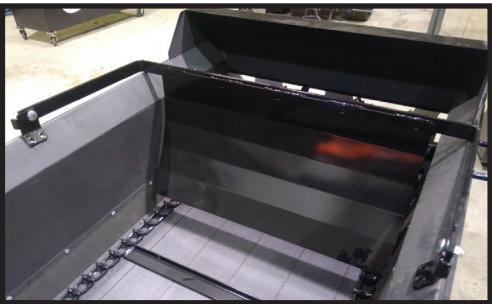

Fig 18.
18. Lay End Gate on spreader and line the holes in the brackets of the End Gate with the punched out holes on the spreader (this may require 2 people). (**Fig 18**).